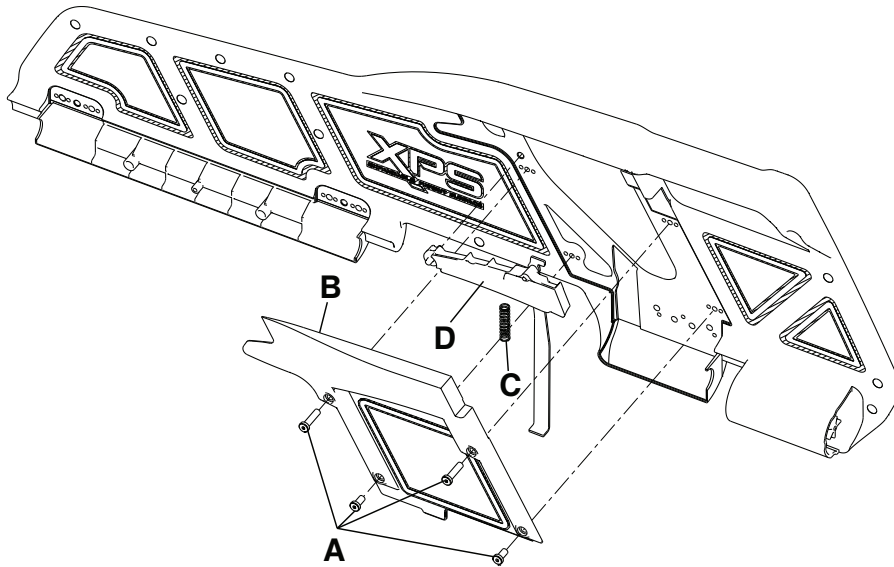

Figure 11 – Release/spring handle assembly replacement (XPS)
3. Using a 3/32" hex wrench, remove the four screws (A) that secure the release cover (B) to the overmold assembly (Figure 11). Remove and save the release cover. Save the screws.
4. Using a small slotted screwdriver, pry the release handle return spring (C) up. Remove and save the return spring.
5. Grasp the release handle assembly (D) and lift the spring side to remove from the cover.